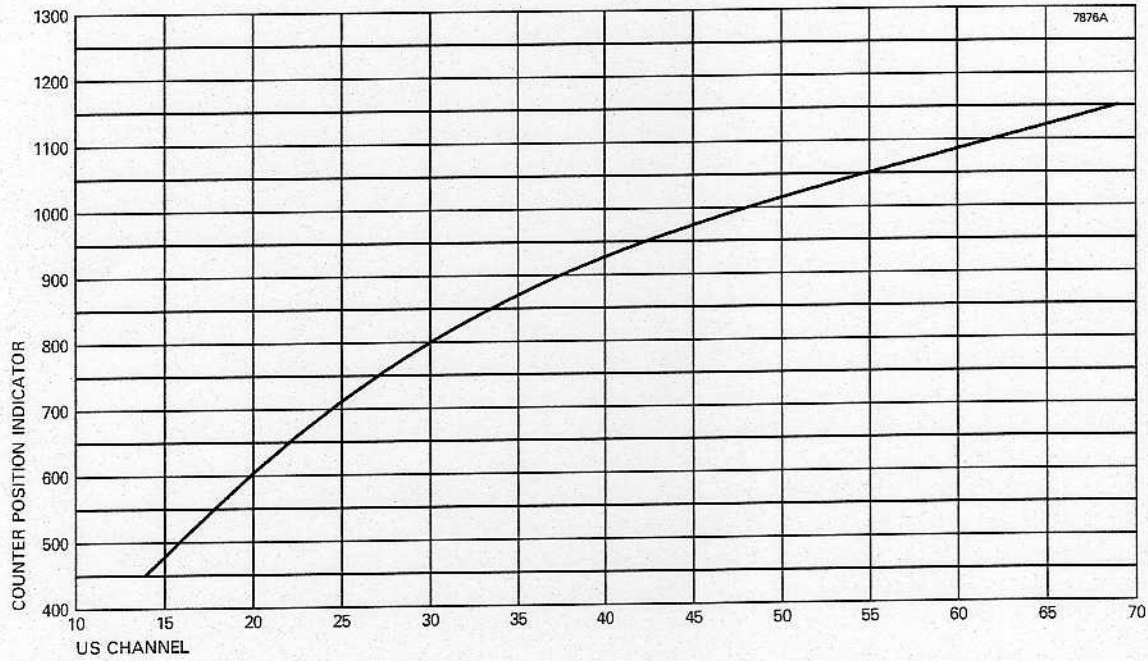

Fig. 12 Primary Cavity Tuning Curve
The continuously tunable cavities are fitted with counters to aid the initial tuning of the IOT. The nominal counter readings for operation can be read from Figs. 12 and 13.
- a) Under DC conditions, rough tune the output cavities to the required positions by referring to Figs. 12 and 13 in section 6.4.1.
- a) Bypass the SAW filter and all of the transmitter pre-correction circuits, and disable the aural drive. Under DC conditions, rough tune the output cavities to the required positions by referring to Figs. 12 and 13 in section 6.4.1.